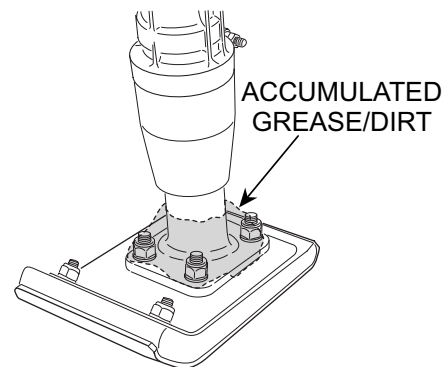

Figure 11. Cleaning Foot Area
2. Grease falls into the foot area (Figure 11) due to vibration during operation. This excessive amount of grease may cause the rammer to become unbalanced.